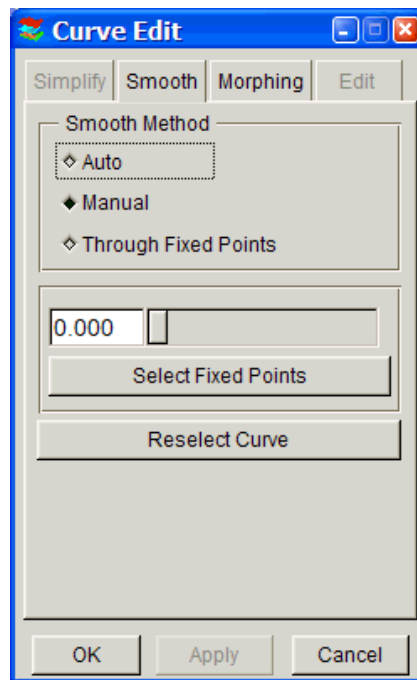
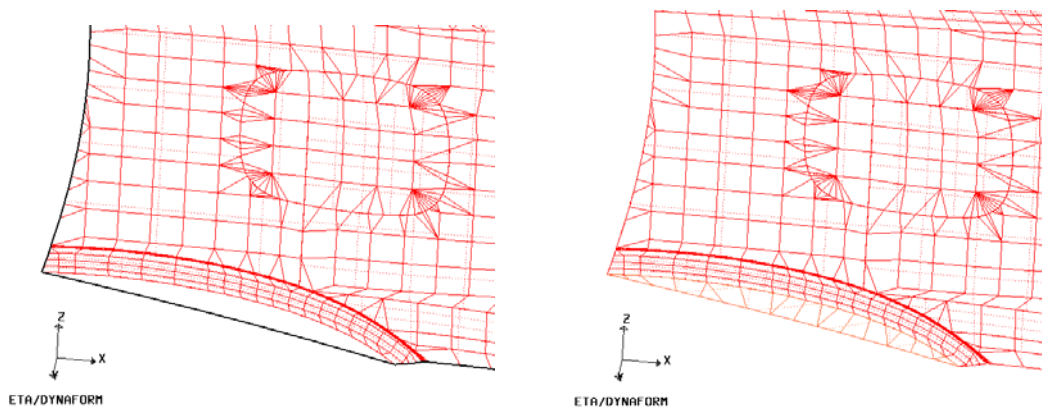

Figure 6.1.35 Curve Edit
Figure 6.1.36 Morphing Result
- After two points are selected, a dialog window will be displayed as in Figure 6.1.35. There are three options in this window to allow the user to morph and smooth the boundary line. Figure 6.1.36 shows the smoothed boundary.
- Click **FILL BOUNDARY** to fill in the mesh between the original boundary and the smoothed boundary. The result is shown in Figure 6.1.36.